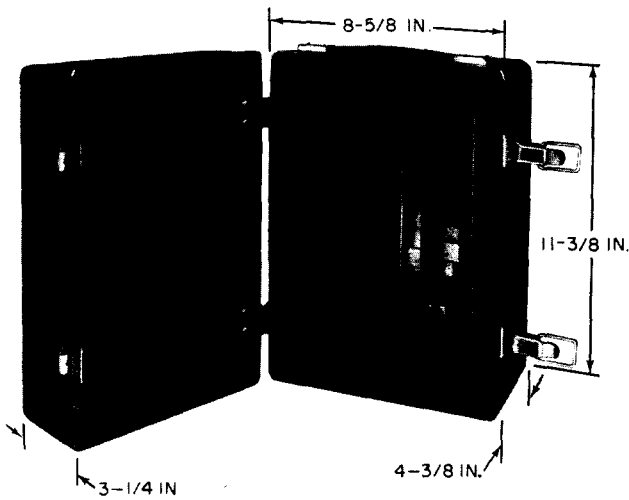

Fig. 12—C Connector Case For Storing the F Test Connector
**3.28** The C test connector case (Fig. 12) consists of a plastic carrying case with a hinged cover, a carrying handle, and two snap catches. Supports are provided for holding the connector in place. The six adapters furnished with the F test connector are supplied in a plastic bag.